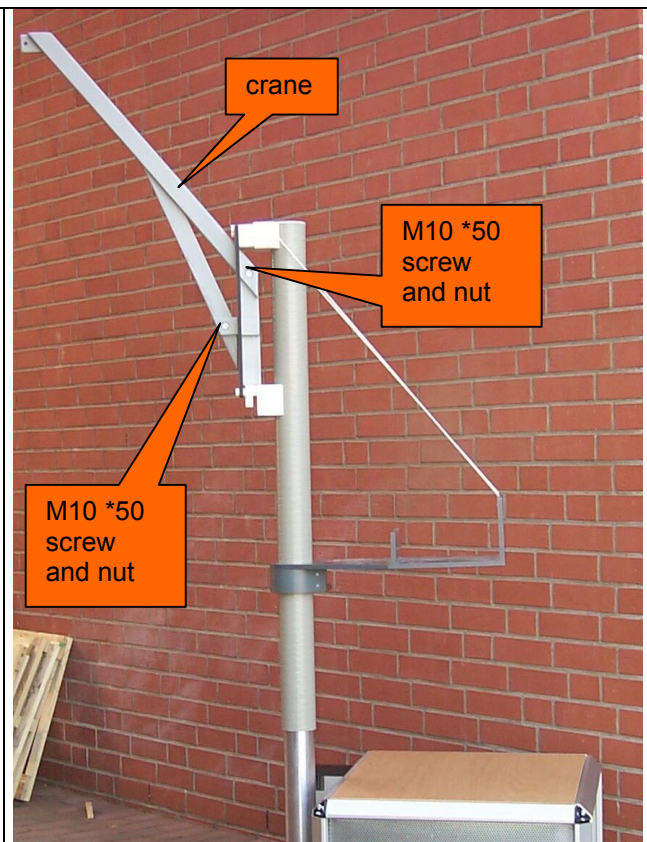

Figure 11:
- assume that the crane is pointing into the north direction and the tray in the south direction (fig. 11)